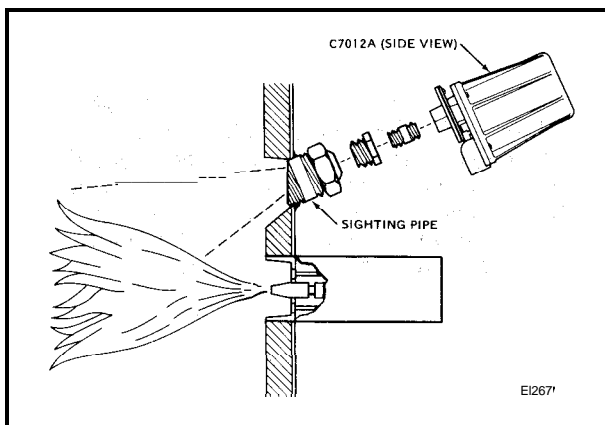

Fig. 1-Typical location.
The 118367A Swivel Mount provides an adjustable mounting support for ultraviolet flame detectors. The swivel mount fastens outside a furnace wall, and a sighting pipe and flame detector are attached to the swivel mount. Adjustment of the detector's view of the flame is possible after the mount is installed (Fig. 1).
1. Detector must have a *completely unobstructed view* of whichever flame is to be proven. See Fig. 1.
Cut or drill holes for swivel mount in burner wall at the selected location. The swivel mount will either attach to a floor flange and pipe bolted to the furnace, or to a pipe welded onto the furnace wall, usually at an angle. In either case, the burner flame must be visible through the 2 in. pipe nipple. The floor flange requires a 2-3/8 in. [60 mm] sighting hole and 4 drilled and tapped bolt holes. If the 2 in. pipe is to be welded onto the furnace, size the sighting hole to the pipe (Fig. 1).